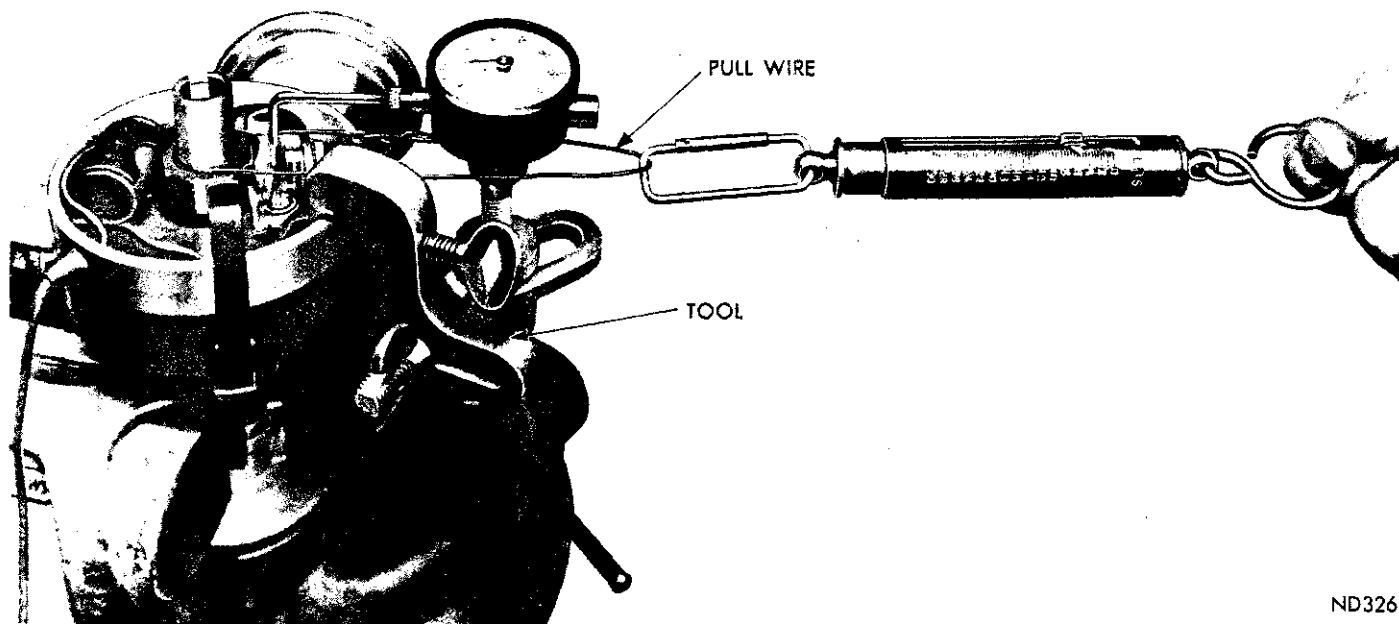

Fig. 5—Shaft and Bushing Wear Test
(1) Remove distributor rotor.
(2) Disconnect primary lead wire at distributor terminal. **DO NOT LOOSEN** inner nut that holds movable contact arm tension spring to terminal post.
(3) Clamp the ribbed section of distributor housing lightly in a vise equipped with soft jaws and attach dial indicator to body of distributor with the indicator plunger arm resting against movable contact arm at the rubbing block and with the rubbing block of contact arm on the highest point of cam lobe (Fig. 5).
(4) Place one end of a wire loop around the top of distributor shaft. Hook a spring scale in the other end of wire loop and pull on a line with the plunger of indicator gauge. Be sure wire loop on shaft end is down on the shaft to insure a straight pull and also that wire loop does not interfere with indicator or holding bracket. Apply a five pound pull and read the movement of plunger on indicator dial. (Be sure rubbing block of contact arm is on highest point of the cam lobe during this test.) If plunger movement exceeds .006 inch, replace bushings and/or distributor shaft, see "Distributor Disassembly."